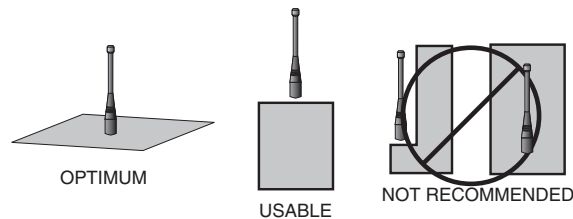

Figure 27: Ground Plane Orientation
2. Optimum performance is obtained from a  $\frac{1}{4}$ - or  $\frac{1}{2}$ -wave straight whip mounted at a right angle to the ground plane (Figure 27). In many cases, this isn't desirable for practical or ergonomic reasons, thus, an alternative antenna style such as a helical, loop or patch may be utilized and the corresponding sacrifice in performance accepted.